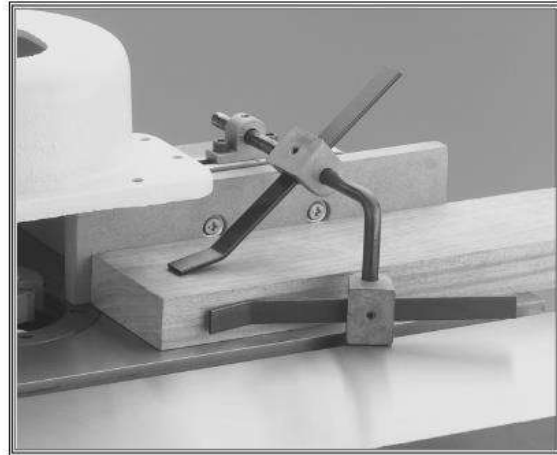

Figure 2
6. Position each of the hold-downs into place for your workpiece, and tighten the setscrews in the fence mounts and the aluminum holddown brackets as shown in **Figure 2**